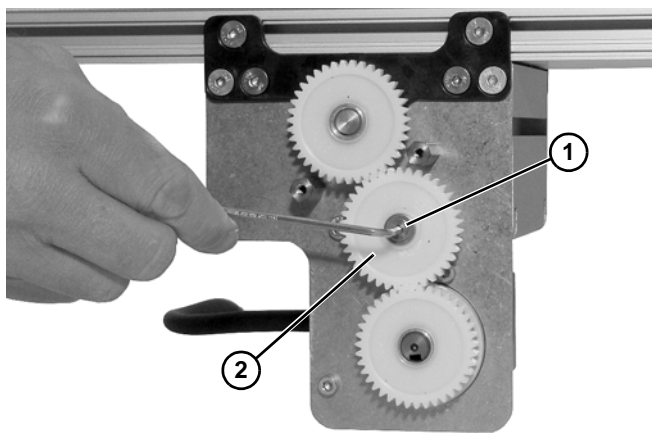

Figure 19
15. Install center gear (Figure 19, item 2) with washer and screw (Figure 19, item 1).